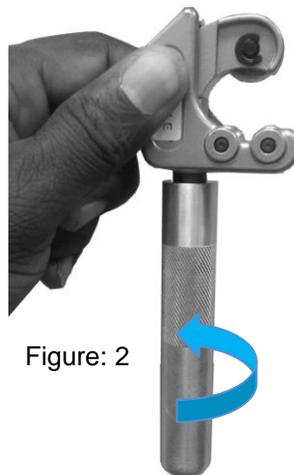

Figure: 2
4) While holding the tool body and handle with one hand as shown on (Figure 2), insert the cable, as you grasp the tool body and cable together with the other hand as shown (Figure 3)